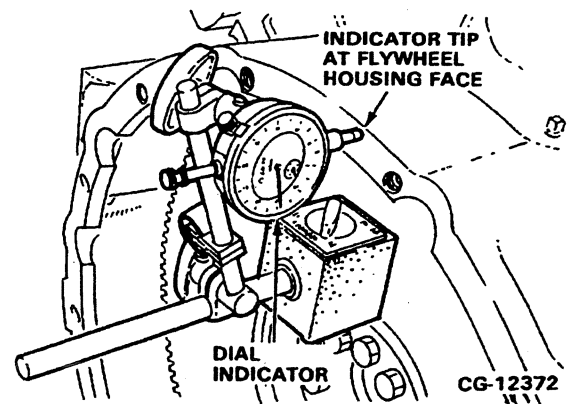

Figure 6.58. Check Flywheel Housing Face Run-Out
- a. Attach a dial indicator to the flywheel and place the indicator tip against the flywheel housing face. Refer to Figure 6.58.